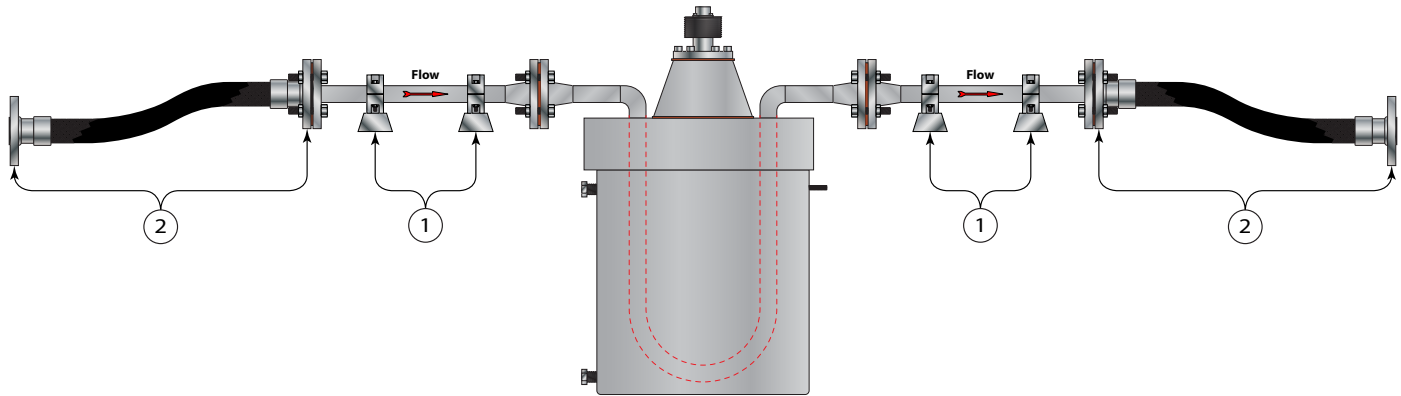
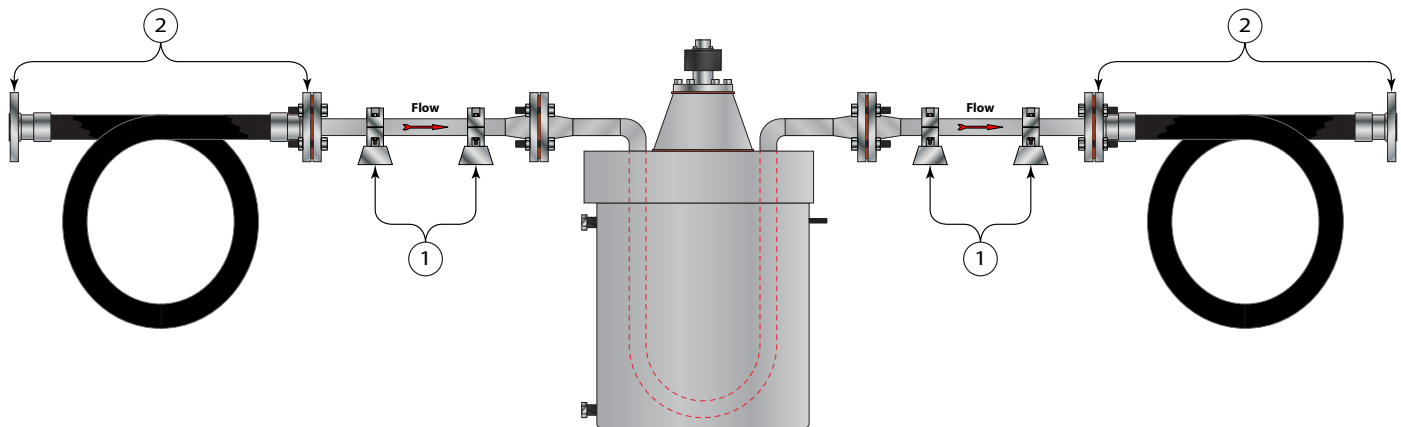

Figure 20: Flexible armored hoses
Figure 21: Flexible armored hose loops
8. When using hose connections a short section of rigid pipe should be used on each side of the meter for proper support. The meter should not hang from hose connections (see *Figure 20* and *Figure 21*).
11. Use of armored hoses, as sensor vibration isolators may be required when a high amount of ambient vibration is present (see *Figure 20* and *Figure 21*).